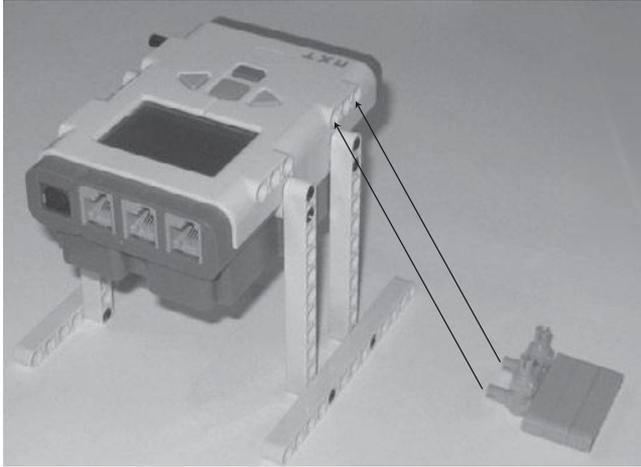

Figure 12.10
Step 4: Connect the support platform to the framework base, as shown in Figure 12.10.